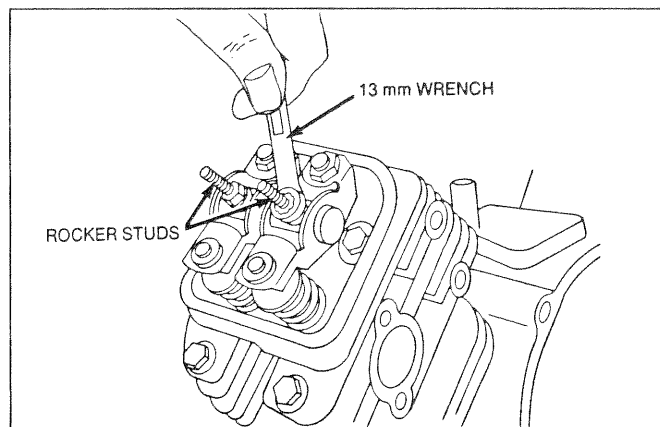

Figure 85. Removal of Rocker Studs
- Remove shaft, rocker arms and shaft supports (Figures 85 and 86).